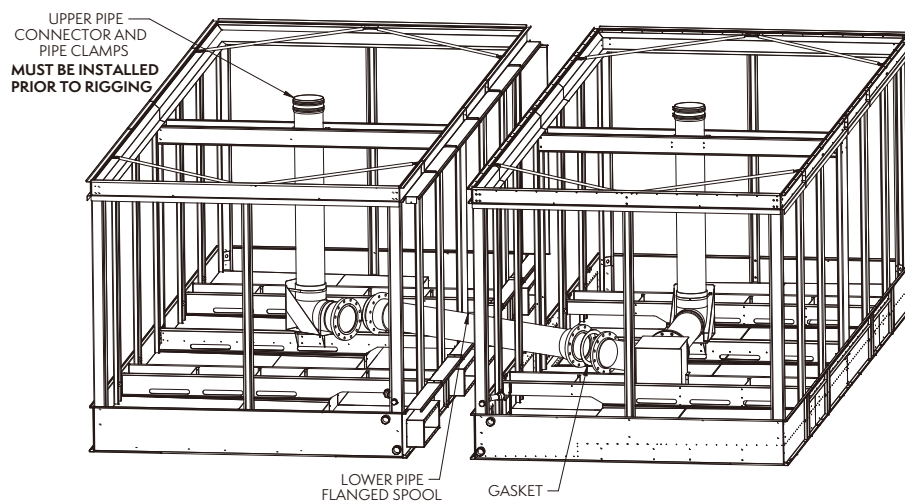

Figure 9 — Installation of Bottom Inlet Piping
6. After tower is fully installed, insert the lower pipe flanged spool with gaskets between flanges, as shown in **Figure 9**. Use hardware noted in **Table 3**. Please note, the basin section has cross braces for shipping support. One of these cross braces will be in the way of the pipe spool, please remove this cross brace prior to installing the pipe spool. The cross brace does **NOT** need to be reinstalled after the pipe spool has been installed.